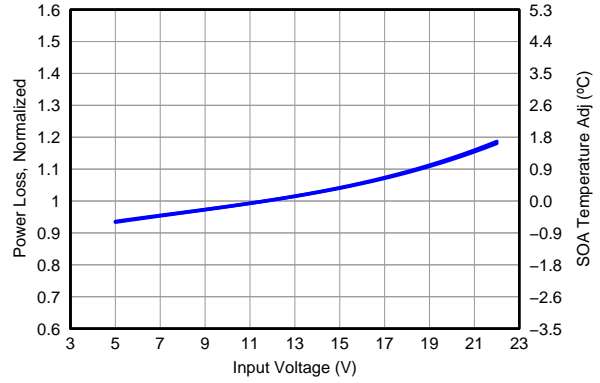

Figure 7. Normalized Power Loss vs Input Voltage
- Normalized Power Loss for input voltage ≈ 0.94 (Figure 7)